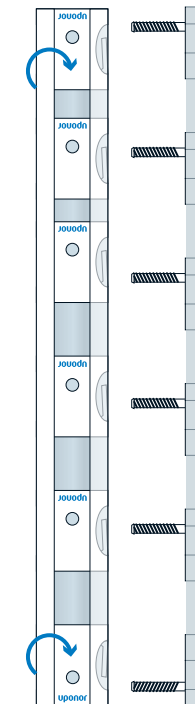

Figure 6: Insert retention clips
1. Insert the retention clips into the rail. Ensure the top and bottom retention clips are rotated 180 degrees so the bolt is closest to the outer edge (see **Figure 6**).